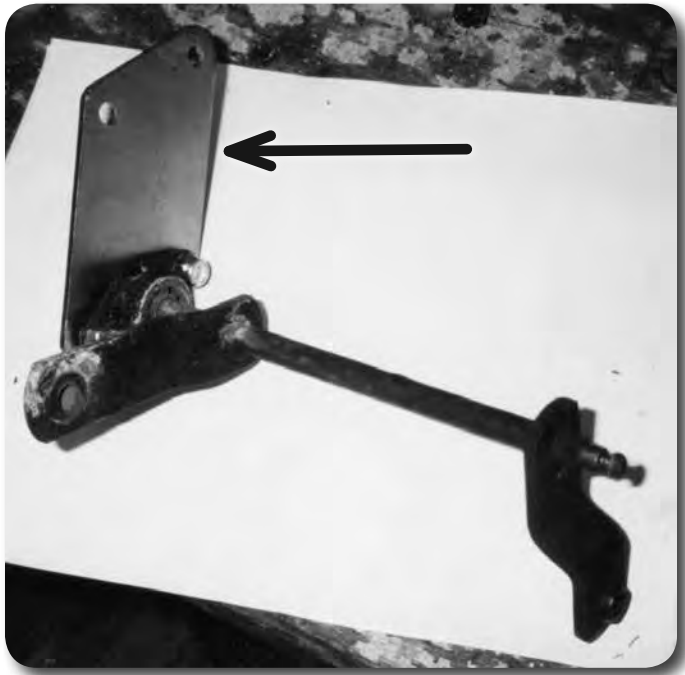

Figure 7 (Automatic Transmission)
37. Attach the pivot assembly to the relocation bracket using two 1/4" x 1/2" bolts and lock nuts. The pivot rod runs through the large hole in the bracket **Figure 7**.